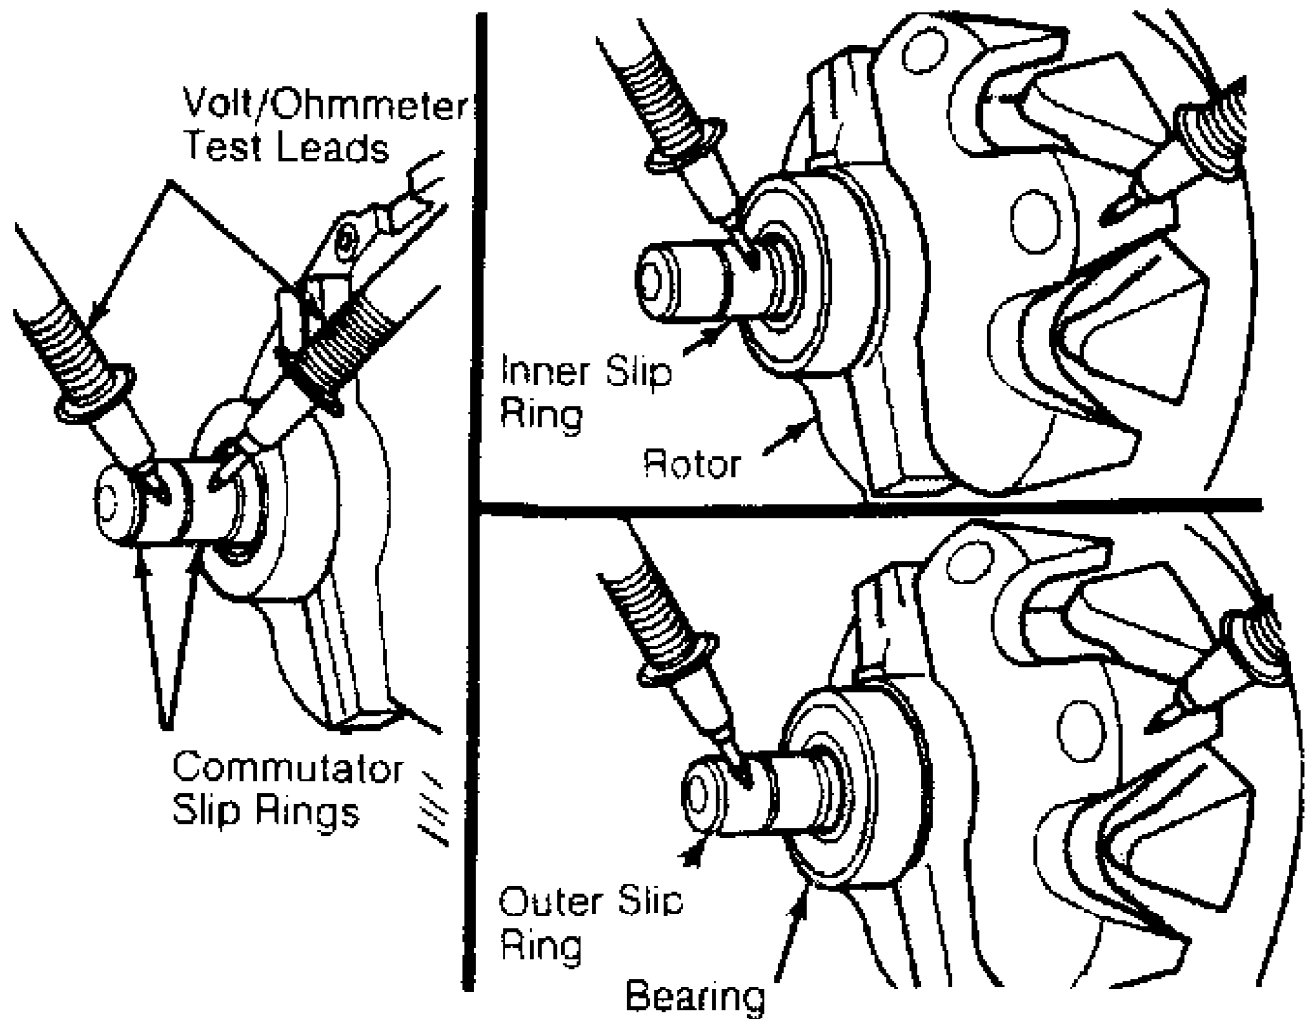

Fig. 11: Testing Rotor Continuity
3) Test should show open circuit. If failure is detected in either test, replace rotor assembly. See Fig. 11.